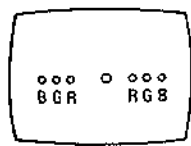

Fig. 4-9.
2. Adjust the TILT control to display the dot pattern shown in Fig. 4-9 or 4-10.
- a. If misconvergence is as shown in Fig. 4-9, increase the resistance value of R623 to the next larger commercial value.